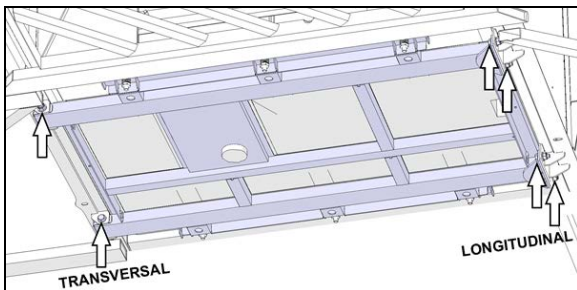

FIGURE 15: LOCATION OF MOUNTING POINTS
- Carefully inspect fuel cradle mounting bolts, 6 locations (Figure 15).